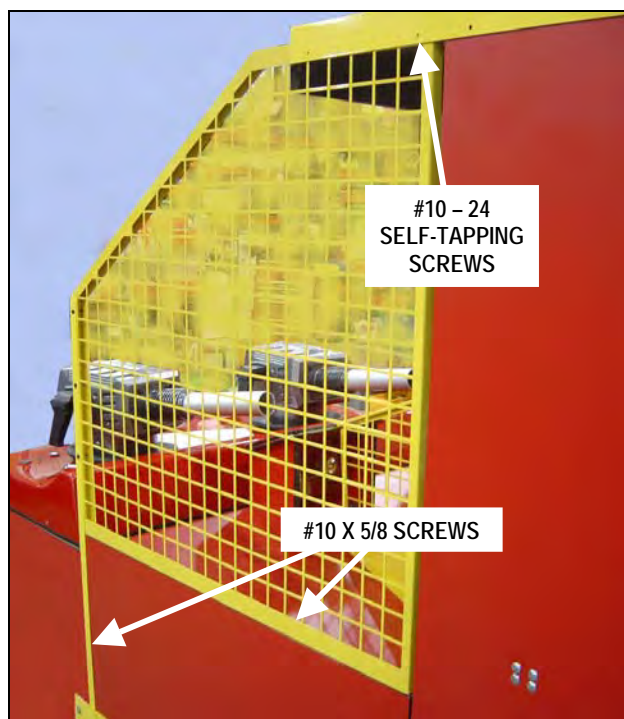

Figure 8 Side Screen
8. Installing the outside metal screens. See Figure 8. The outside screens are marked left and right. Place the screens on the middle cabinet frame and push tight up against the rear cabinet.